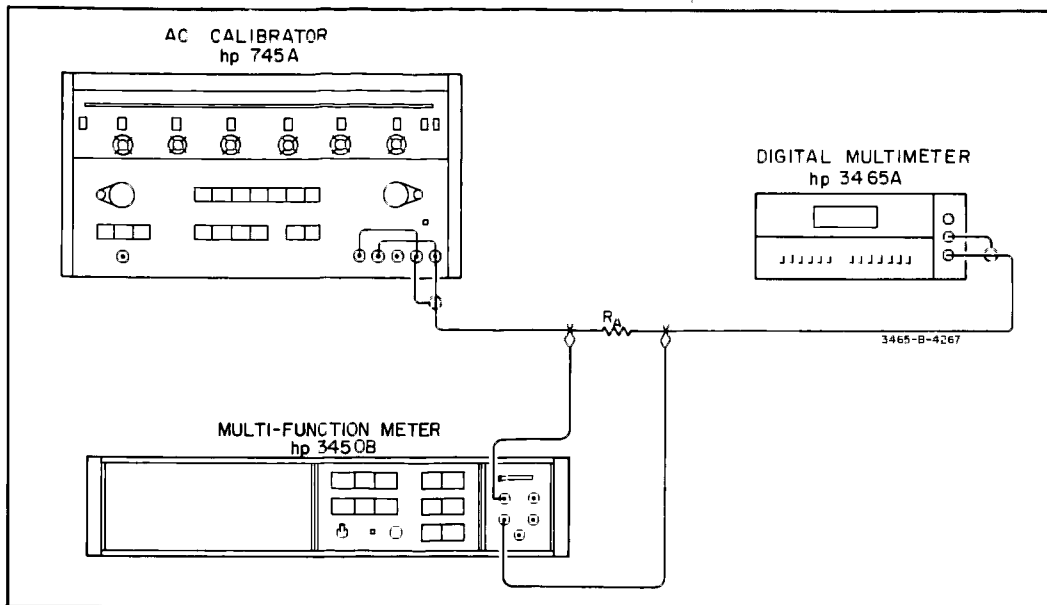

Figure 5-3. AC Ammeter Accuracy Test 100 μ A thru 10 mA Range.
a. Set the Multimeter function to ACA ($\sim\text{A}$) and range to 100 μA. Connect the equipment as shown in Figure 5-3 using a discrete resistor for R_A. (To select R_A, note the
f. Reconnect the 3450B Digital Voltmeter as shown in Figure 5-3.